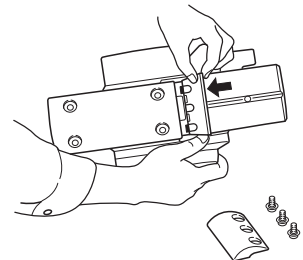

Fig. 16
- (2) As shown in **Fig. 16**, slide the blade in the direction indicated by the arrow to disassemble the blade.